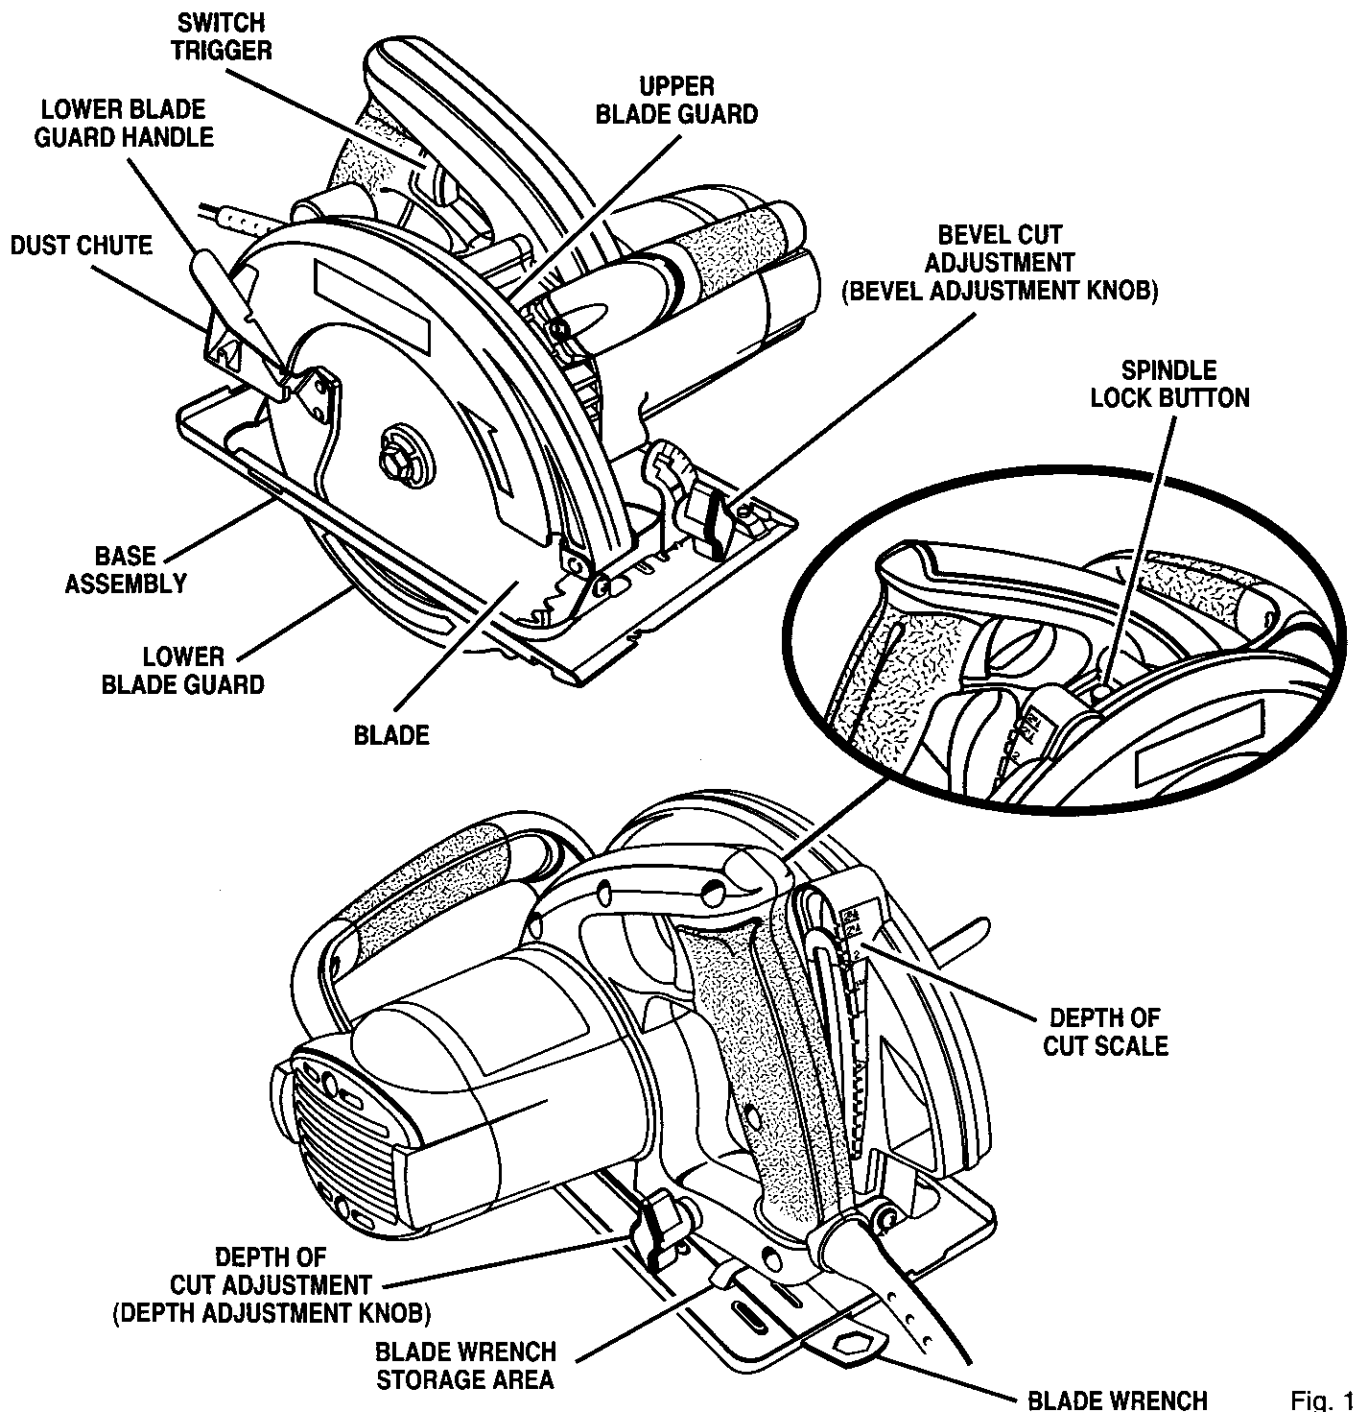

Fig. 1
See Figure 1.
- Remove blade wrench from storage area. See Figure 1.
- Return blade wrench to storage area. **Note:** Always place angled portion of blade wrench up as shown in Figure 1.